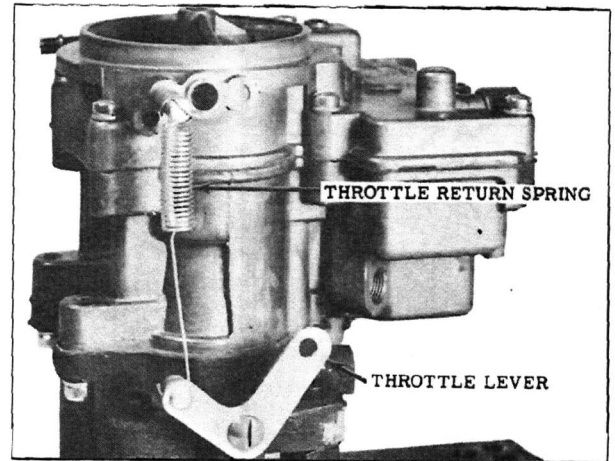

Fig. 18 Throttle Return Springs
4. (Front and Rear Only) Remove throttle return springs. (See Fig. 18)